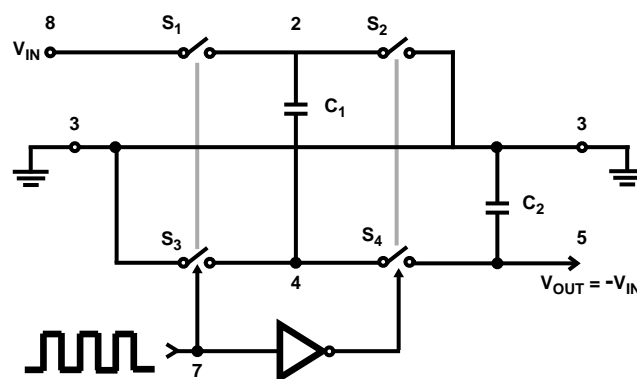
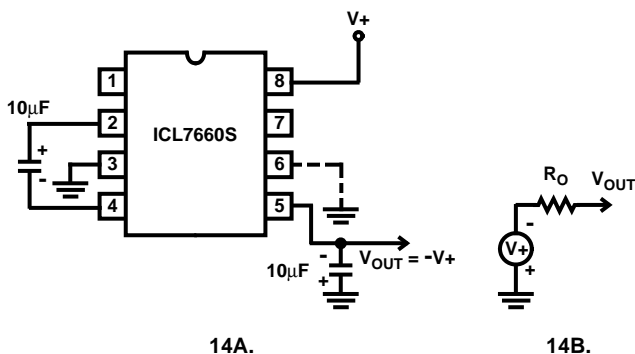
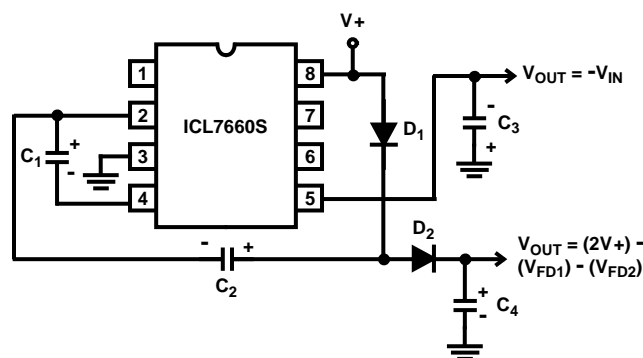

FIGURE 13. IDEALIZED NEGATIVE VOLTAGE CONVERTER
FIGURE 14. SIMPLE NEGATIVE CONVERTER AND ITS OUTPUT EQUIVALENT
FIGURE 21. COMBINED NEGATIVE VOLTAGE CONVERTER AND POSITIVE DOUBLER
The ICL7660S contains all the necessary circuitry to complete a negative voltage converter, with the exception of 2 external capacitors which may be inexpensive 10 $\mu$ F polarized electrolytic types. The mode of operation of the device may be best understood by considering Figure 13, which shows an idealized negative voltage converter. Capacitor C1 is charged to a voltage, V+, for the half cycle when switches S1 and S3 are closed. (Note: Switches S2 and S4 are open during this half cycle.) During the second half cycle of operation, switches S2 and S4 are closed, with S1 and S3 open, thereby shifting capacitor C1 to C2 such that the voltage on C2 is exactly V+, assuming ideal switches and no load on C2. The ICL7660S approaches this ideal situation more closely than existing non-mechanical circuits.
In the ICL7660S, the 4 switches of Figure 13 are MOS power switches; S1 is a P-Channel devices and S2, S3 and S4 are N-Channel devices. The main difficulty with this approach is that in integrating the switches, the substrates of S3 and S4 must always remain reverse biased with respect to their sources, but not so much as to degrade their "ON" resistances. In addition, at circuit start up, and under output short circuit conditions (VOUT = V+), the output voltage must be sensed and the substrate bias adjusted accordingly. Failure to accomplish this would result in high power losses and probable device latchup.
where V1 and V2 are the voltages on C1 during the pump and transfer cycles. If the impedances of C1 and C2 are relatively high at the pump frequency (refer to Figure 13) compared to the value of RL, there will be substantial difference in the voltages V1 and V2. Therefore it is not only desirable to make C2 as large as possible to eliminate output voltage ripple, but also to employ a correspondingly large value for C1 in order to achieve maximum efficiency of operation.
The majority of applications will undoubtedly utilize the ICL7660S for generation of negative supply voltages. Figure 14 shows typical connections to provide a negative supply where a positive supply of +1.5V to +12V is available. Keep in mind that pin 6 (LV) is tied to the supply negative (GND) for supply voltage below 3.5V.
The output characteristics of the circuit in Figure 14 can be approximated by an ideal voltage source in series with a resistance as shown in Figure 14B. The voltage source has a value of  $-(V_+)$ . The output impedance ( $R_O$ ) is a function of the ON resistance of the internal MOS switches (shown in Figure 13), the switching frequency, the value of  $C_1$  and  $C_2$ , and the ESR (equivalent series resistance) of  $C_1$  and  $C_2$ . A good first order approximation for  $R_O$  is:
Figure 21 combines the functions shown in Figure 14 and Figure 20 to provide negative voltage conversion and positive voltage doubling simultaneously. This approach would be, for example, suitable for generating +9V and -5V from an existing +5V supply. In this instance capacitors  $C_1$  and  $C_3$  perform the pump and reservoir functions respectively for the generation of the negative voltage, while capacitors  $C_2$  and  $C_4$  are pump and reservoir respectively for the doubled positive voltage. There is a penalty in this configuration which combines both functions, however, in that the source impedances of the generated supplies will be somewhat higher due to the finite impedance of the common charge pump driver at pin 2 of the device.